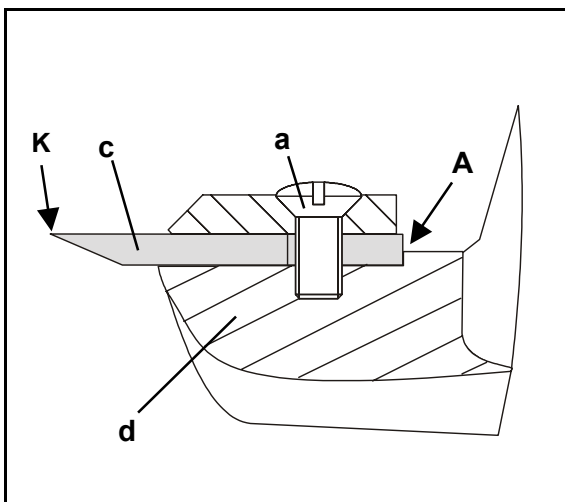

Fig. 19: Fastening the scraper knife
- Push the scraper knife (Fig. 19/c) against the rear stop (Fig. 19/A).
- Align the scraper knife (Fig. 19/c) on the scraper socket (Fig. 19/d).
- Carefully tighten the fastening screws (Fig. 19/a).
With use, the edge of the scraper knife is ground away. If scraping performance deteriorates the knife can be reversed in the scraper socket. As the knife is ground against the roller it will be sharpened and once again conform to the front roller (Fig. 19/K).